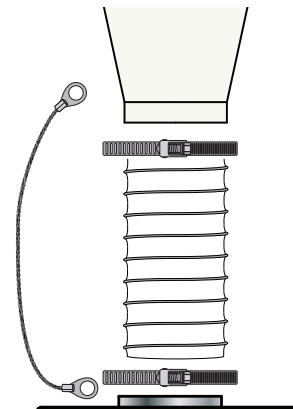

FIG. 20a
If you purchased the Single Drum setup, ground the Drum (Y) by drilling a 5/16" hole in the bottom of the Cone (C) just above the installed Flex Hose (W) and on the Lid's Collared Inlet (X). Attach the 14" Grounding Cable with the included 3/8" self-tapping screws (F1) [FIG. 20a].